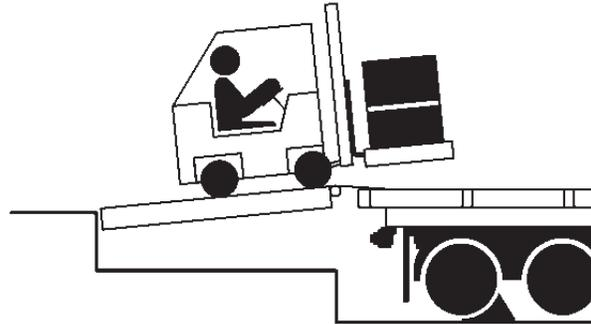

Figure 17
5. Proceed with loading or unloading the transport vehicle (see Figure 17).